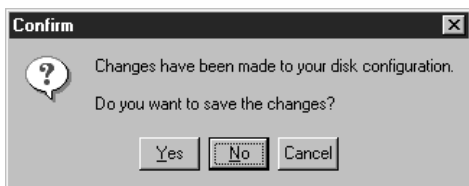

Figure 25. Confirm
- 9 From the Partition menu, choose Commit Changes Now. The first Confirm dialog box appears (Figure 25).